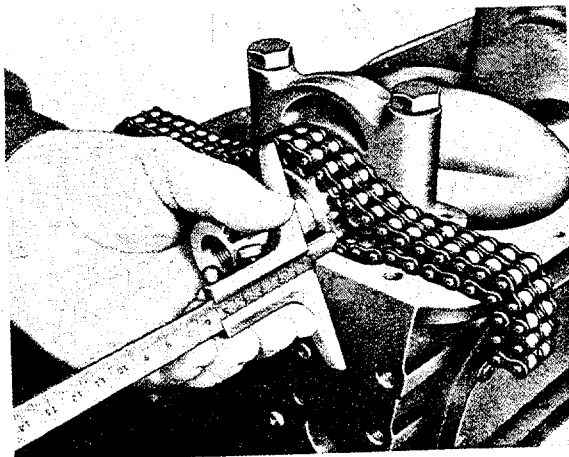

Fig. M 3/51
**Note:** In the engine for Type 220 the lock plate for the 2nd crankshaft bearing cap is provided with a strap for fastening the clamp on the oil pump suction pipe. Do not interchange the lock plates (see Fig. M 3/56).
51. Check alignment of sprockets (crankshaft sprocket – intermediate gear) by measuring the distance from front end of cylinder crankcase to crankshaft sprocket and to intermediate gear with a depth gauge or micrometer (Fig. M 3/51).
The permissible out of alignment of the sprockets is 0.1 mm (0.004"). If this value is exceeded, exchange adjusting ring beyond the crankshaft sprocket (see Fig. M 3/53). To pull the crankshaft sprocket, use tool 187 589 00 33 (see Fig. M 3/36).